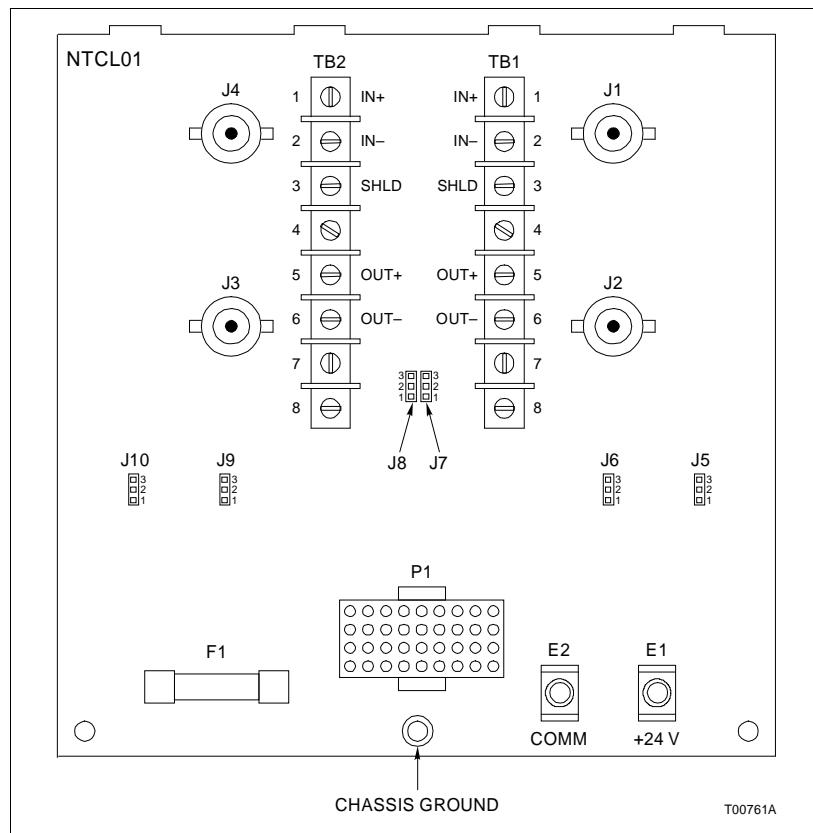
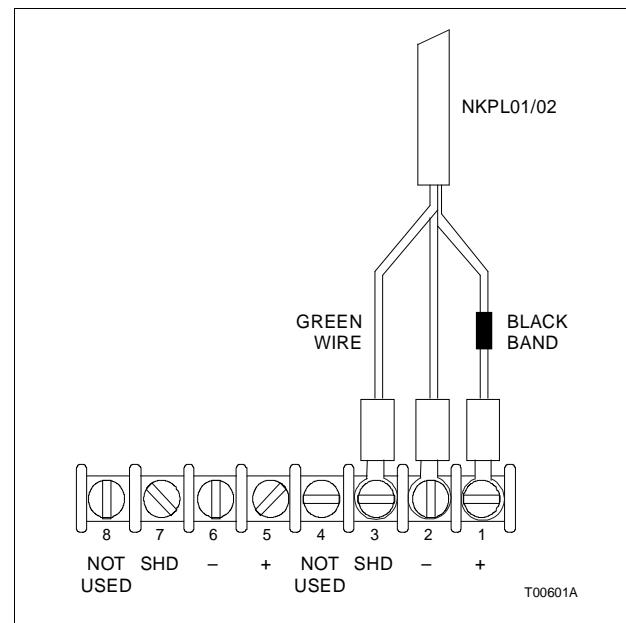

Figure 2-1. NTCL01 Connector Assignments and Jumper Locations for Revision F Circuit Boards
Figure 2-5. NKPL01/02 Lead Assignments
Before you mount the TCL on the field termination panel, install the jumpers. Jumper settings configure the termination unit to match the impedance of the communication cable. These jumpers must be properly installed for the system to operate. Figure 2-1 shows the location of the fuse holder, jumpers and connectors.
Bailey ships a 1.0 amp/250 volt fuse (Bailey P/N 194776A11001) installed on each TCL. Verify that the fuse is in the fuse holder marked F1. Figure 2-1 shows the location of the fuse holder on the TCL circuit board.
2. Insert the socket connector end of the cable into P1 of the TCL. See Figure 2-1 for the location of P1 on the TCL circuit board.
1. If using coaxial cable, connect the cable to the termination unit at the appropriate (loop 1 or 2) BNC connector. The BNC connector assignments are marked on the circuit board and are shown in Figure 2-1.
2. If using twinaxial cable, connect the cable to the termination unit at the terminal blocks, TB1 or TB2. Figure 2-1 shows the terminal assignments as they are marked on the circuit board. Figure 2-5 shows the lead assignments of the NKPL01/02 cable.
There is one terminal (E1) that connects to +24 VDC and one terminal (E2) that connects to system common. Figure 2-1 shows their location on the TCL circuit board.